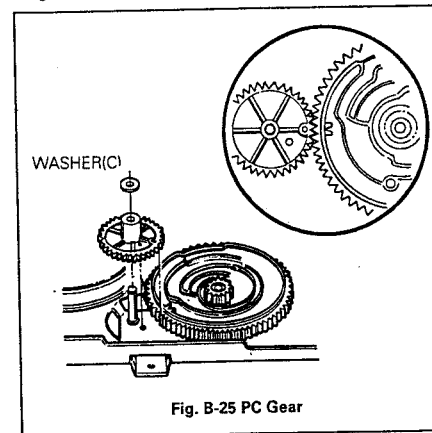

Fig. B-25 PC Gear
- ① Align the Projection of Rack Gear T with the hole of Loading Gear.
- ② Drive the Rack Gear F.L in the direction of arrow(D).
- ③ Hole of Cam should be aligned with the hole of chassis, and the groove(■) of Cam Gear should be aligned with the hole of PC Gear(Fig. B-25)
25. PC Gear(Fig. B-25)
- ① The Groove of PC Gear should be aligned with the groove(V) of Cam Gear, and another hole of it should be aligned with the hole of chassis (Fig. B-25).